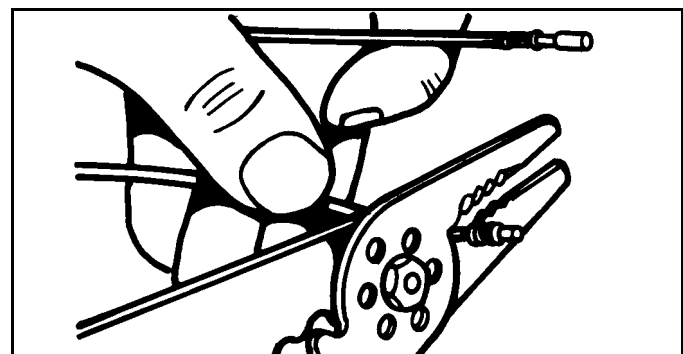

Figure 3-4
1. Cut wire as close as possible to old terminal and remove old cable seal. (See Figure 3-4).